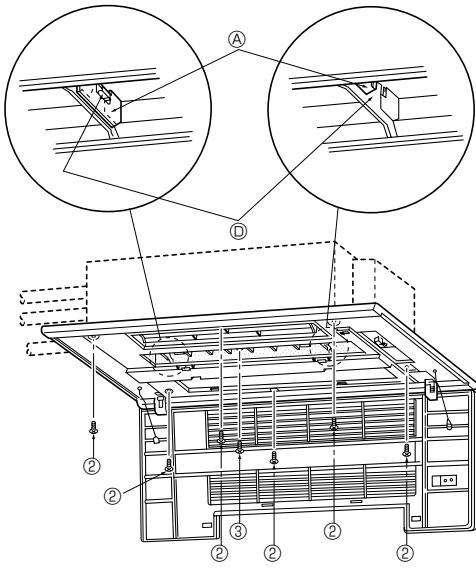
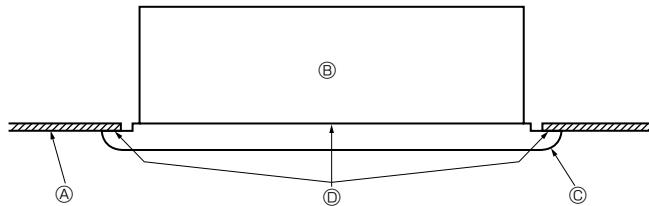

Fig. 5-5
Fig. 5-6
- Adjust the front panel so that it fits properly in the angle between the ceiling and the wall, and install the securing bolts (2) (supplied with this grille) in their four places at left and right, leaving them slightly loose. (Fig. 5-5)
- Next tighten the securing bolts (2) and securing screws (3) in the centre three places.
- Finally tighten the securing bolts (2) in the four places at left and right.
- At this point, make sure there are no gaps between the indoor unit and the front panel, and between the front panel and the ceiling surface. If there are gaps, the wind may come in and it may cause water to drip (Fig. 5-6).
- * Tighten the securing bolts (2) and securing screws (3) completely.
[Fig. 5-5]
5.4. Checks after installing (Fig. 5-6)
- (A) Ceiling surface
- (B) Indoor unit
- (C) Grille
- (D) No gaps here